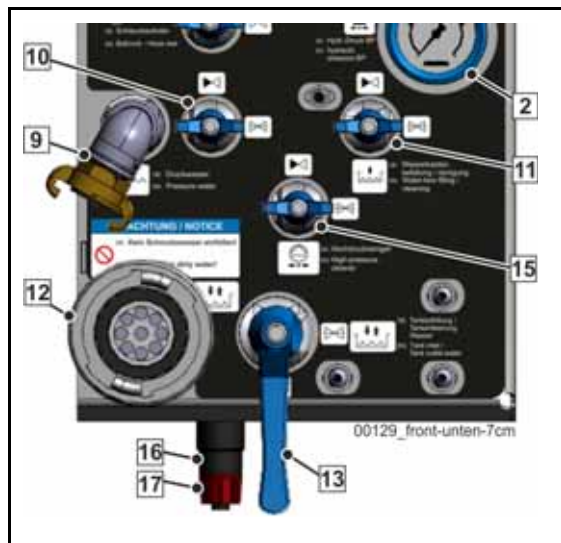

Fig. 482 Supply control
- Open the ball valve (4) (**Fig. 482**) and the turn-lock fastener (6) (**Fig. 482**) on the supply unit.
- After draining the pump, close the ball valve (15) (**Fig. 482**) and the turn-lock fastener (17) (**Fig. 482**) on the supply unit.